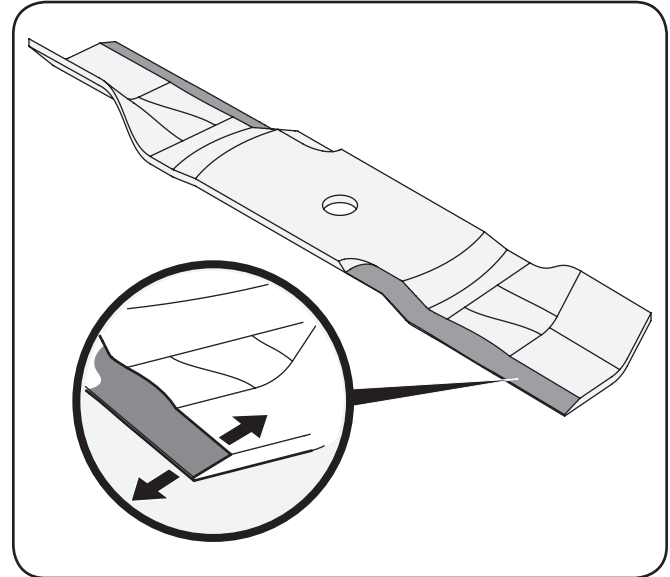

Figure 7-8
3. To properly sharpen the cutting blades, remove equal amounts of metal from both ends of the blades along the cutting edges, parallel to the trailing edge, at a 25°-30° angle. Always grind each cutting blade edge equally to maintain proper blade balance. See Fig. 7-8.